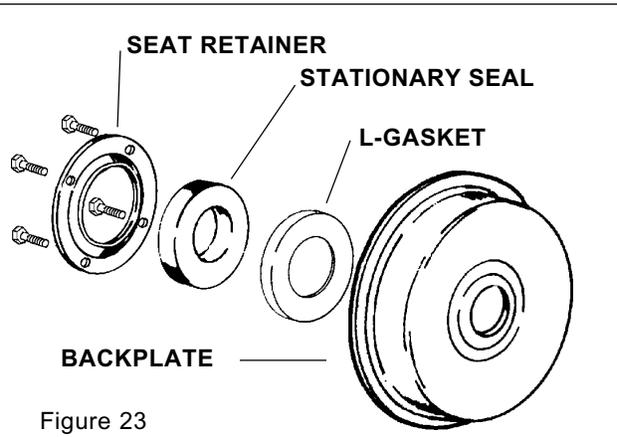

Figure 23
3. Place the stationary seal into the L-gasket. Place the seat retainer over the stationary seal and secure retainer with four 1/4-20 x 1/2 inch hex head cap screws. Tighten the cap screws evenly. (Figure 23)